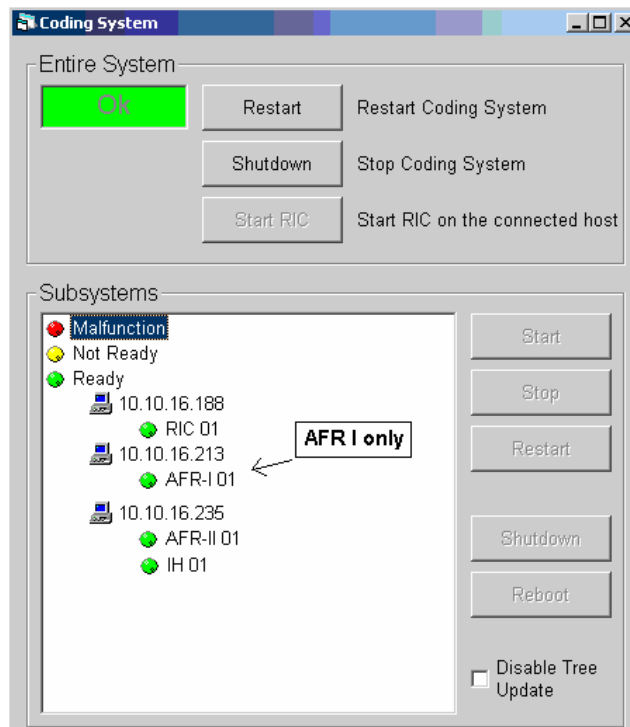

Figure 1-91. Start/Stop Window with AFR Selected
The "Coding System" window is displayed (Figure 1-91).
- In the "Subsystems" field, choose an **AFR I** (Figure 1-91).